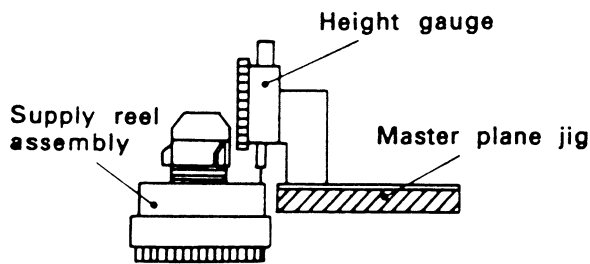

Fig.3-2 Reel height adjustment
- c) Check reel assembly height measure at two places 90° apart (± 0.2 mm) Fig.3-2.